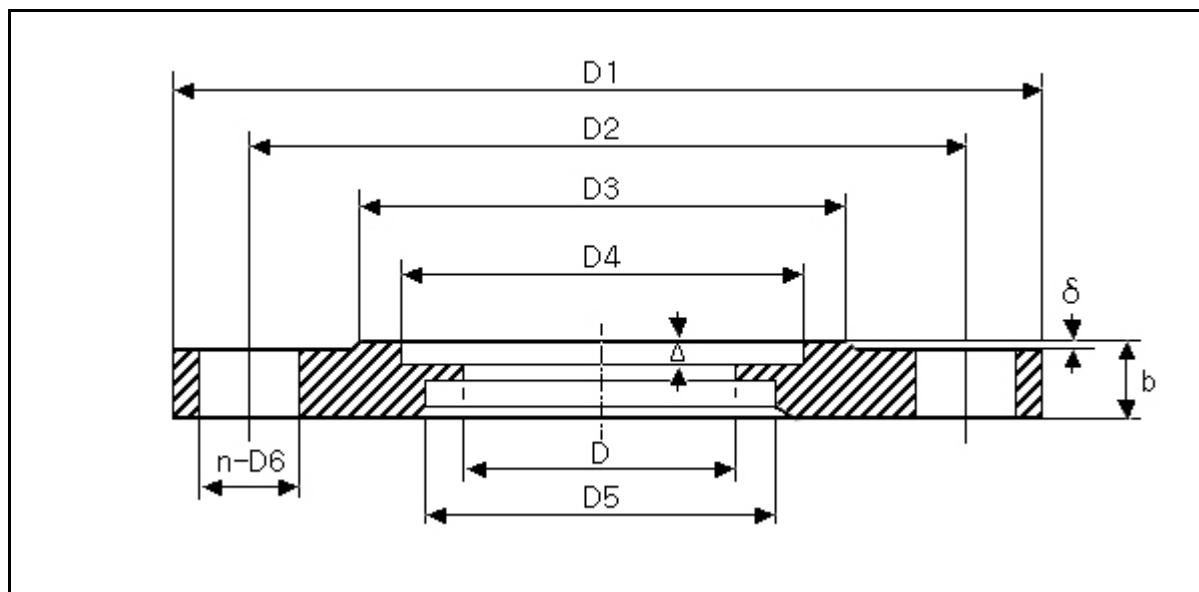

Figure 3-1. Flange Size
- B. When installing the meter in a wafer type, you must prevent the seal pad from going into the pipeline. You can refer to the figure 3-1 and the table 4 and 5 for the size of the flange and the length of the bolt.